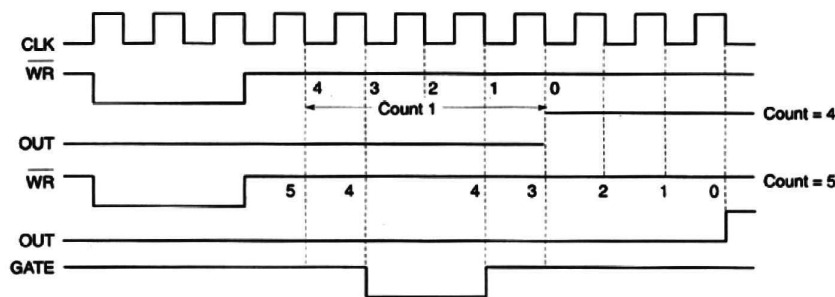

Fig. 4.13 Mode 0
- The signal waveforms are shown in Figure 4.13.